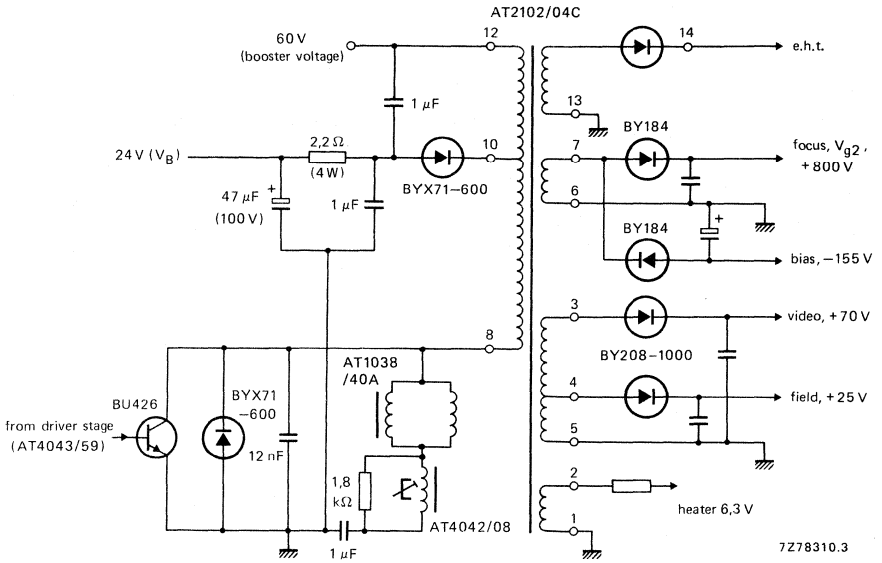

Fig. 3 Application circuit.
**ELECTRICAL DATA** (see also Fig. 3)